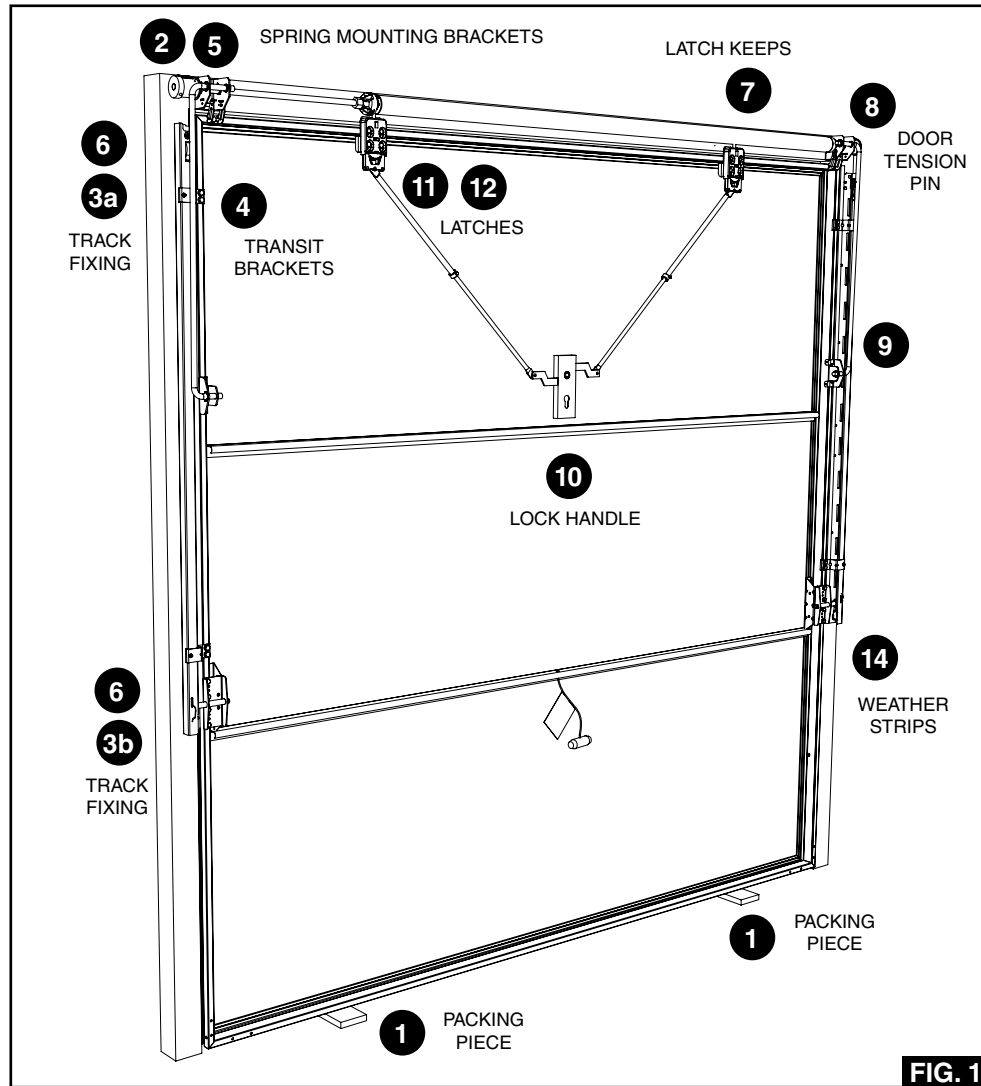

FIG. 1
1. Position the door centrally between frame side jambs on packing pieces (See Fig 1). Adjust packers to ensure that the bottom edge of Spring Mounting Brackets are set level and align with the underside of the frame lintel.